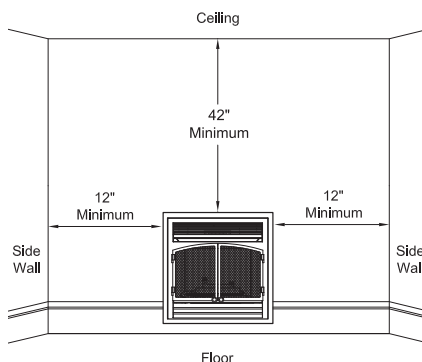

Figure 5 - Minimum Clearance for Combustible to Wall and Ceiling
- A. Clearance from the side of the fireplace to any combustible material and wall should not be less than 12" (see Figure5).